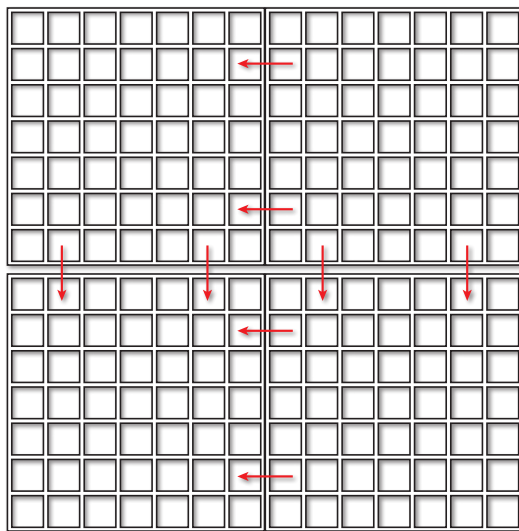

Figure 1
**Symmetrical Grouping:** Each joining surface between a pair of Sustain Lenses requires a minimum of two connector bolts (see figure 1). Indicate the surfaces of each lens that will be joined to another lens by applying match marks with a small piece of masking tape and a marker. We suggest using a letter and an arrow showing which side is up. Position the template on each of the labeled surfaces and mark the hole locations. Drill the bolt holes using a 1/4" and 3/8" drill bits as described above.